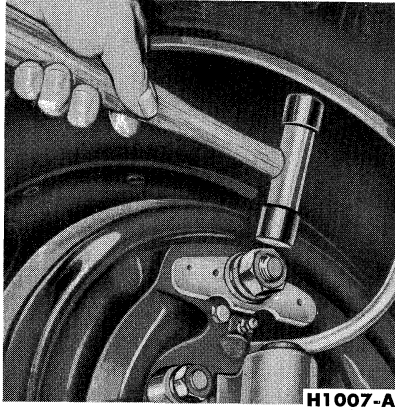

FIG. 4—Anchor Pin Adjustment
ting, loosen the anchor pin nut just enough to permit moving the pin up or down by tapping the nut with a soft hammer. **Do not back the nut off too far or the shoes will move out of position when the nut is tightened.** Tap the anchor pin in a direction that will allow the shoes to center in the drum and provide an operating clearance of 0.010 inch (Fig. 4).
2. With the drums at normal room temperature, check to see that the wheels turn freely without drag. If necessary, turn the adjusting cams in the opposite direction to that shown in Fig. 4 to free the brakes.